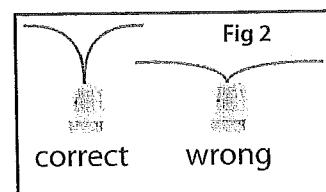
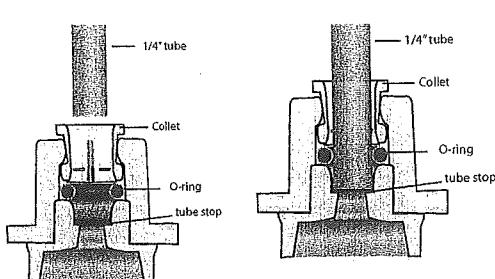

Fig 2
Fig. 3
5. Insert the tubing (Fig. 3) from the water supply valve into the grey ACCULINK fitting located on top back of the unit (arrow pointing towards the fitting). If using copper pipe, carefully bend the tube so that it enters the fitting vertically (Fig. 2) or else it can stress the fitting causing a leak.
6. Now insert the tubing connected to the fridge to the white ACCULINK fitting (Fig. 3) located at the top front of the unit (arrow pointing away from fitting), again making sure that the tube enters the fitting vertically (Fig. 2).